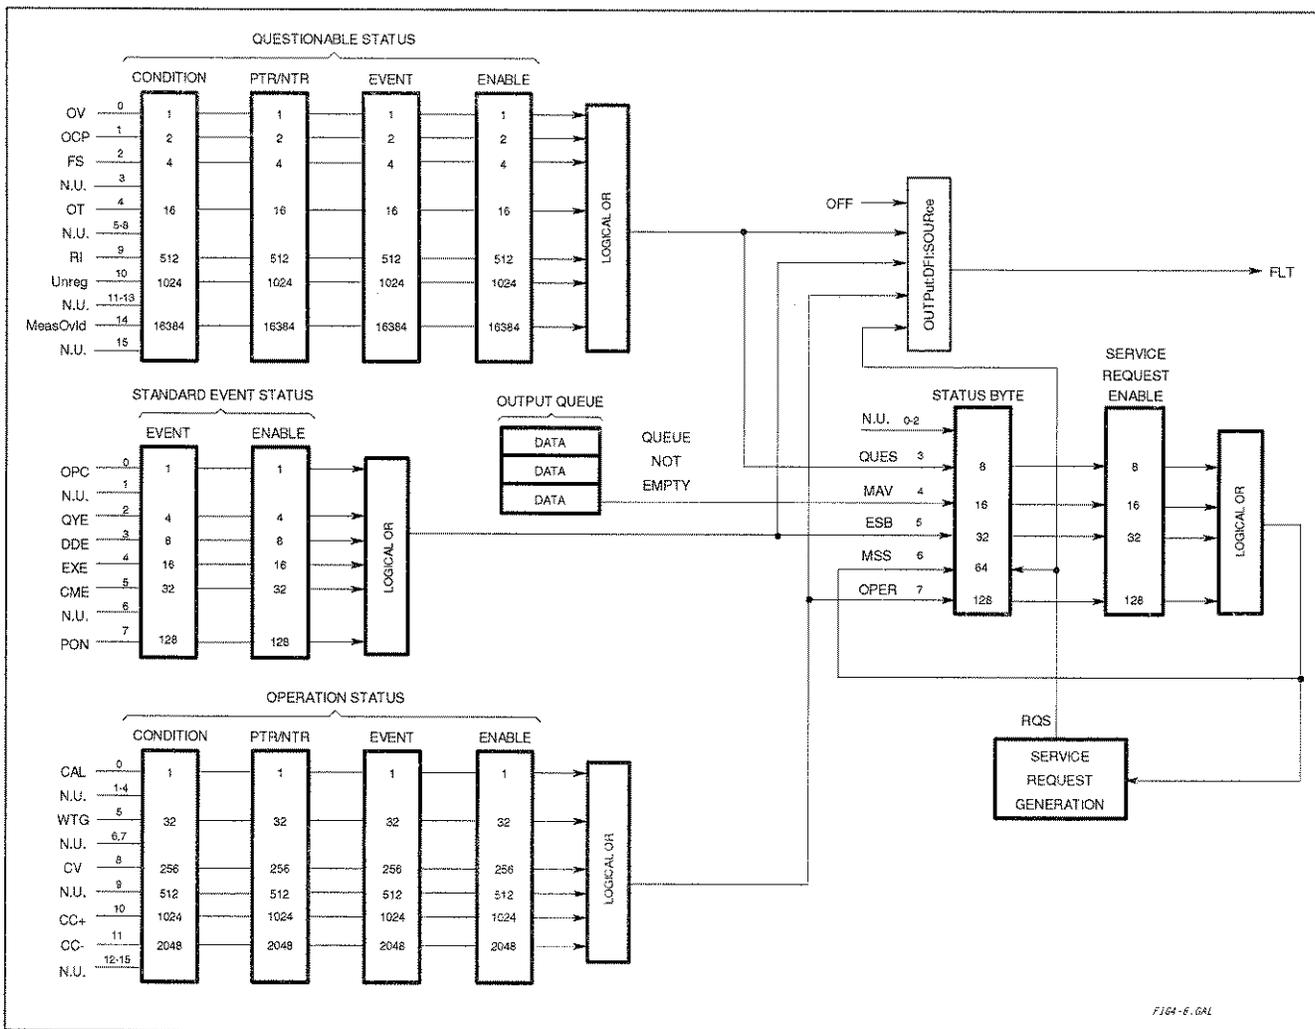

Figure 3-7. DC Source Status Model
Figure 3-7 shows the status register structure of the dc source. Table 3-1 defines the status bits. The Standard Event, Status Byte, and Service Request Enable registers and the Output Queue perform standard GPIB functions as defined in the *IEEE 488.2 Standard Digital Interface for Programmable Instrumentation*. The Operation Status and Questionable Status registers implement functions that are specific to the dc source.
The Questionable Status registers record signals that indicate abnormal operation of the dc source. As shown in figure 3-7, the group consists of the same type of registers as the Status Operation group. The outputs of the Questionable Status group are logically-ORed into the QUEStionable summary bit (3) of the Status Byte register.
This group consists of an Event register and an Enable register that are programmed by Common commands. The Standard Event event register latches events relating to instrument communication status (see figure 3-7). It is a read-only register that is cleared when read. The Standard Event enable register functions similarly to the enable registers of the Operation and Questionable status groups.
This example assumes you want a service request generated whenever the dc source switches to the CC (constant current) operating mode, or whenever the dc source's overvoltage, overcurrent, or overtemperature circuits have tripped. From figure 3-7, note the required path for a condition at bit 10 (CC) of the Operation Status register to set bit 6 (RQS) of the Status Byte register. Also note the required path for Questionable Status conditions at bits 0, 1, and 4 to generate a service request (RQS) at the Status Byte register. The required register programming is as follows: